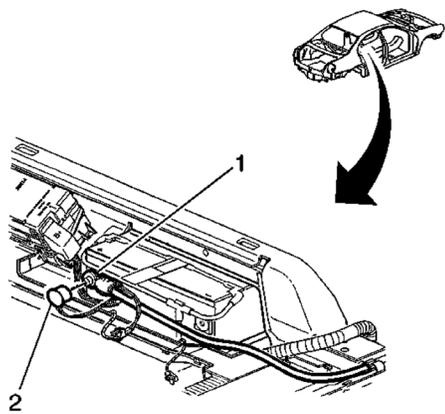

Fig. 2 Positive battery cable
7. Disconnect battery positive cable (1) from battery, **Fig. 2**.
3. Connect battery positive cable (1) to battery, **Fig. 2**. **Torque** bolt to 13 ft. lbs.